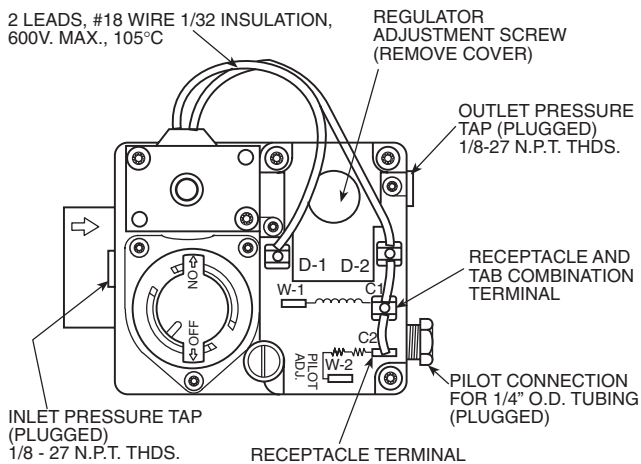

Fig. 55 — Gas Valve
6. Remove screw cap covering regulator adjustment screw (See Fig. 55).